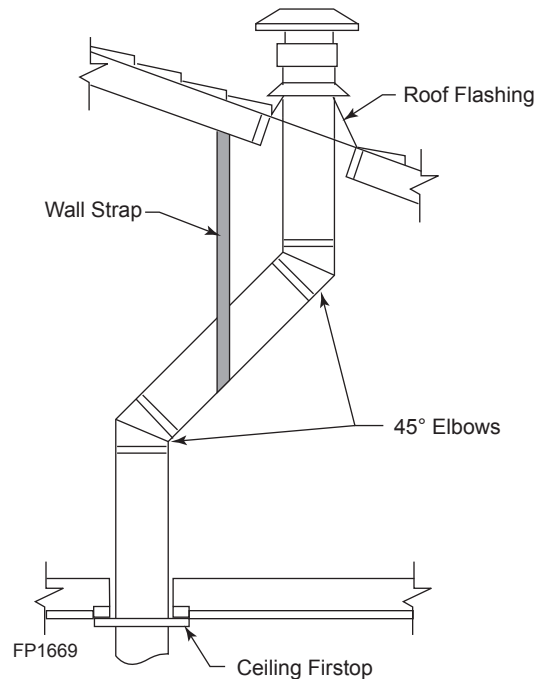

Figure 32 -
1. Determine the route your vertical venting will take. If ceiling joist, roof rafters or other framing will obstruct the venting system, consider an offset. Refer to *Figure 32* to avoid cutting load bearing members.